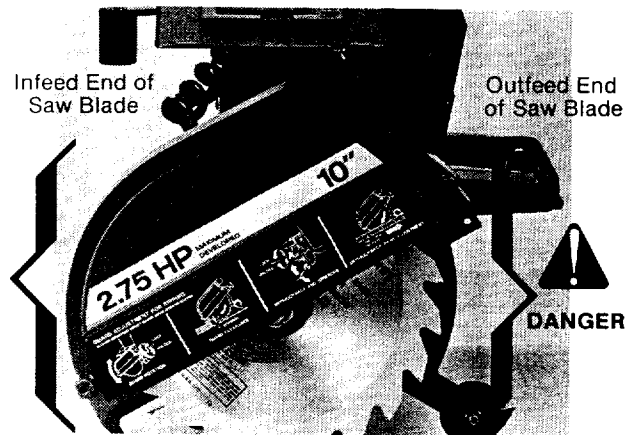

Fig. 120 Infeed and Outfeed Ends of Saw Blade
Wrong way feed is feeding the workpiece into the end of the blade with pawls, the outfeed end. (Fig. 120) There are two things that can happen if you feed the workpiece into the outfeed end of the saw blade:
4. Go to the in-feed end of the saw blade. Fig. 120.